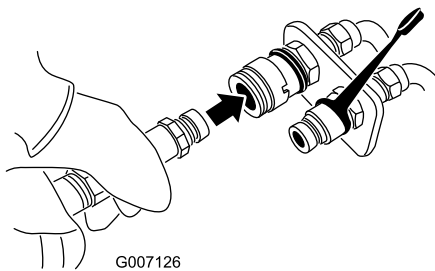

Figure 35
6. Push the attachment male connector into the female connector on the traction unit (Figure 35).